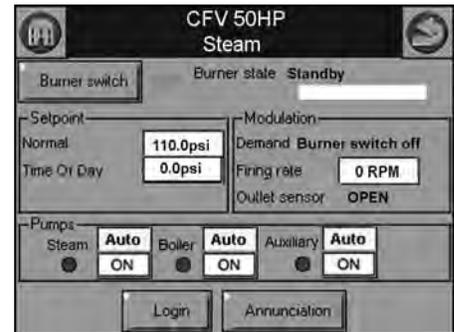

Figure 4-14 Operation screen
4. Initiate burner firing sequence. The burner switch is accessed via the CB Falcon Operation page (Figure 4-14). If the burner does not ignite, adjust choke counterclockwise slightly until you can see a slight yellow flame at the burner during ignition. Clockwise adjustments to the low-fire offset screw may also be tried. Check that gas pressure to gas valve inlet is sufficient to fire burner (see Table 4-3 for gas pressure requirements).